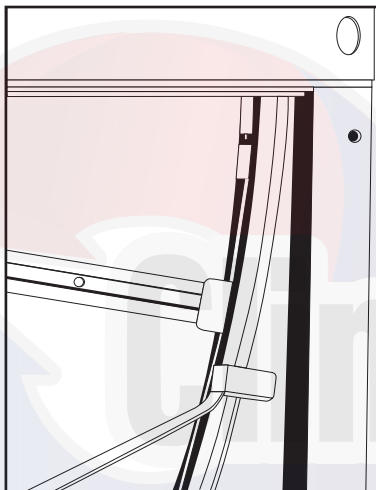

Fig. 172 — Detail of Belt Retaining Clip Location
8. Rotate wheel counterclockwise until belt retaining clip is within a few inches of the wheel bearing beam (see Fig. 172).